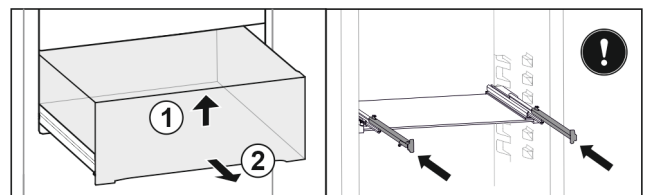

Fig. 82
- Lift up drawer at the front. Fig. 82 (1)
- Remove drawer to the front. Fig. 82 (2)